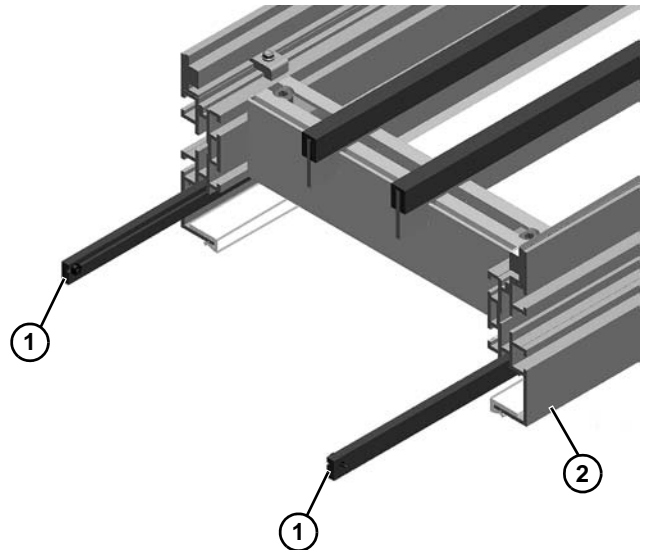

Figure 45
2. Slide tenting wear strips (Figure 45, item 1) from frame assembly (Figure 45, item 2).